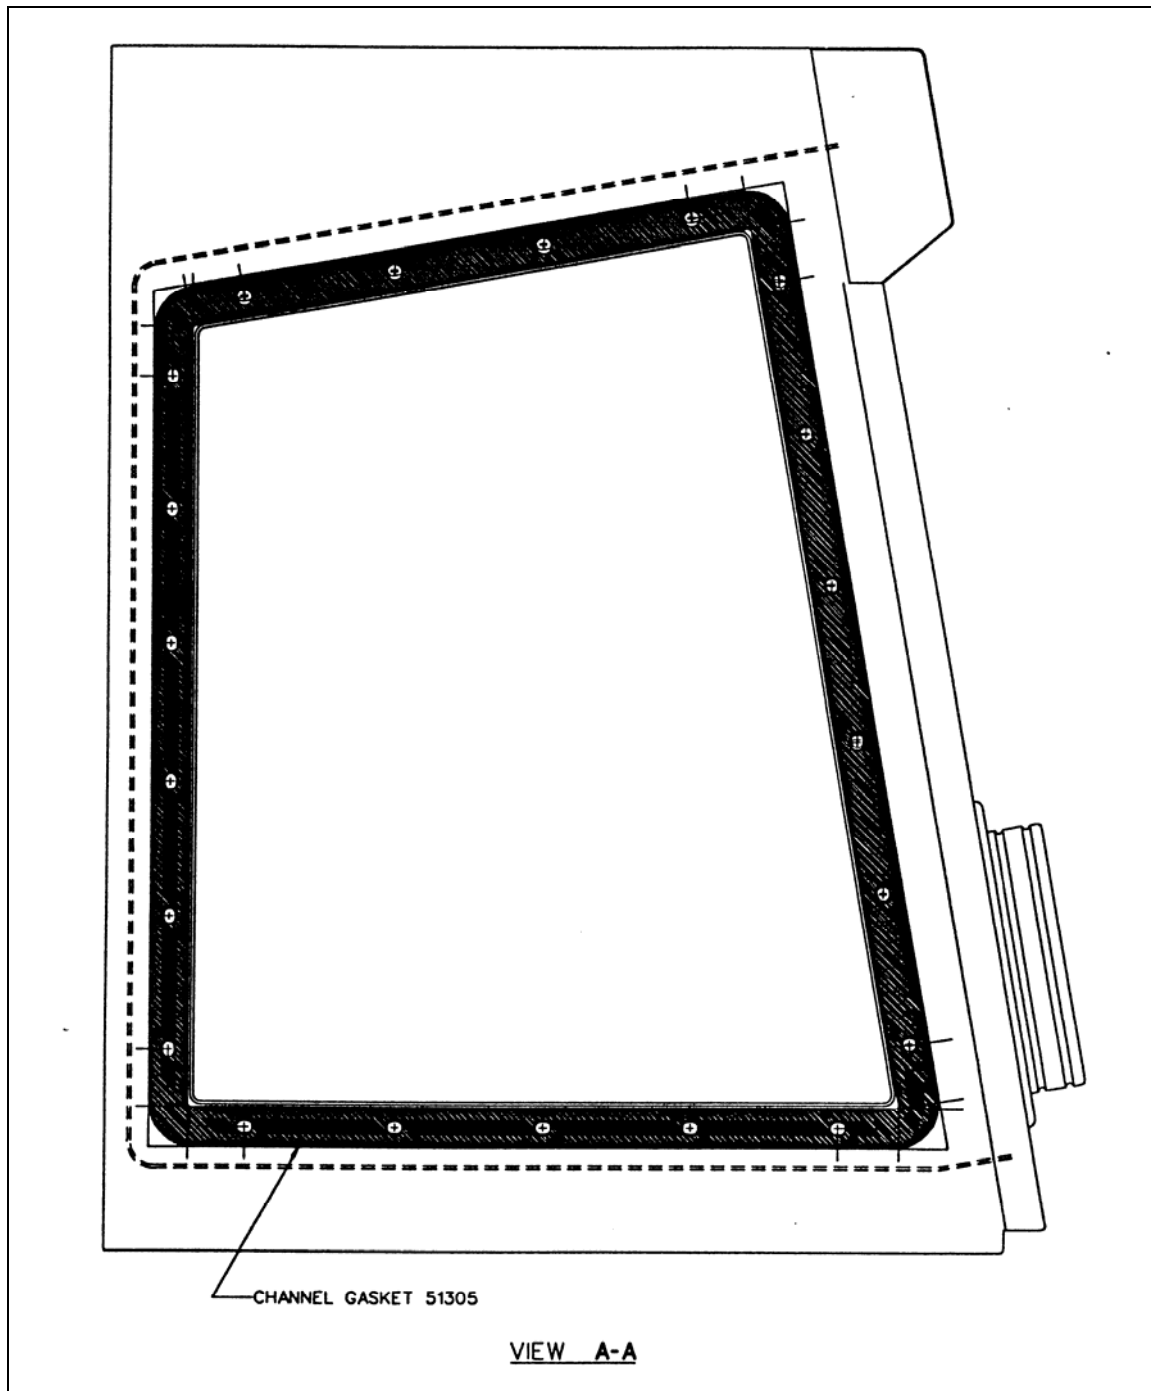

Figure 5
Step 2: Place the Channel Gasket (P/N 5130500) over the threaded studs on the left end of the right glove box module as shown in Figure 5. Make sure that both sides of the gasket are free of lint, dust, and any other particles that could prevent a good seal.